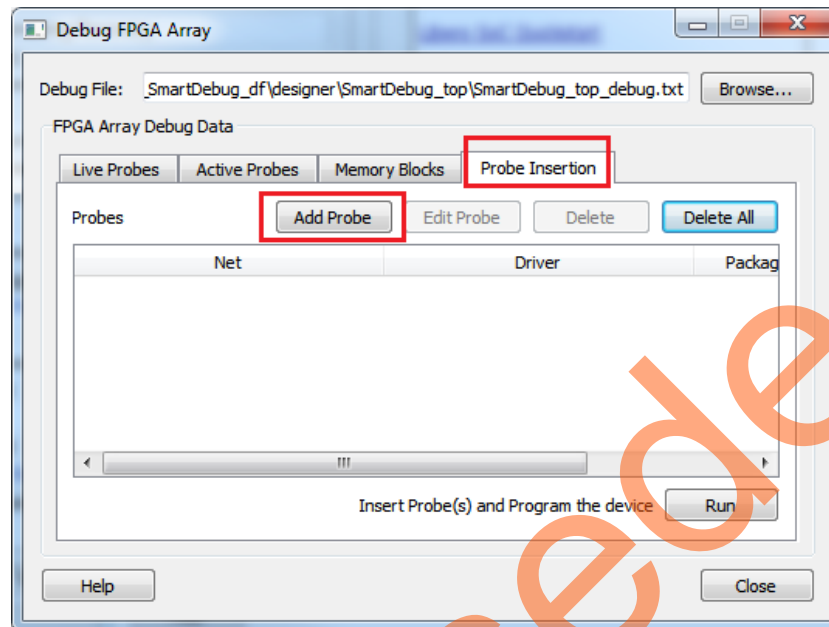

Figure 24 • Probe Insertion Tab and Add Probe Option
1. On the **Debug FPGA Array** window, click the **Probe Insertion** tab and click **Add Probe**, as shown in Figure 24.